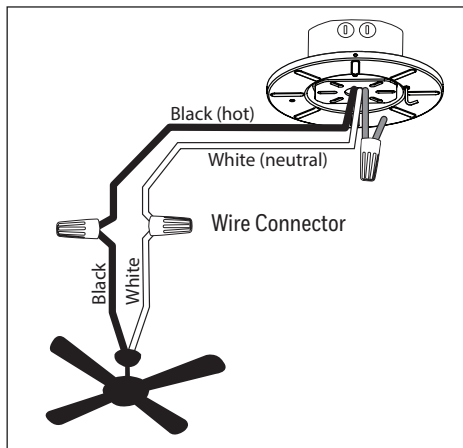

Figure 4.1
1. Use wire connectors to connect the fan wires to the power supply wires according to the wiring diagram and the following instructions: (Figure 4.1):